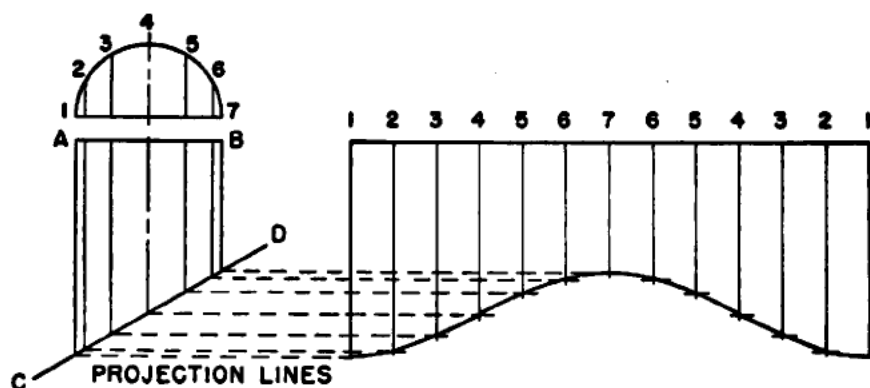

Figure 59.—Transferring from elevation to stretch-out to make the pattern.
To develop your pattern by the use of dividers, follow these step-by-step instructions. As you read refer to figure 59.
5. Finally connect the points just measured on lines 1-7-1 on the stretch-out with a smooth curve as shown in figure 59.
To obtain the pattern by projection, you merely project parallel broken lines from the points of intersection on the miter to like-numbered lines in the stretch-out, as shown in figure 59.